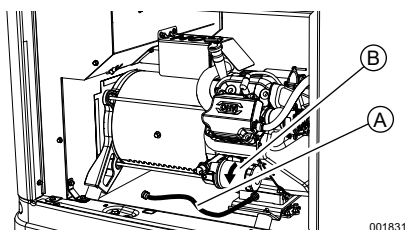
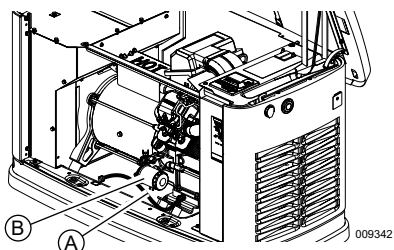
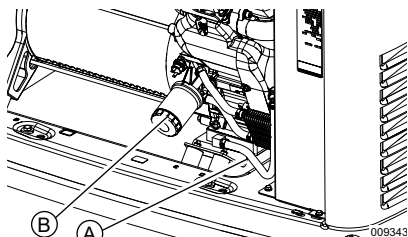

Figure 4-1. Oil Filter and Drain Location (10 kW)
Figure 4-2. Oil Filter and Drain Location (14–18 kW)
Figure 4-3. Oil Filter and Drain Location (20–26 kW)
2. See Figure 4-1, Figure 4-2, or Figure 4-3. Remove front panel when unit has cooled. Pull oil drain hose (A) free of retaining clip. Remove cap from oil drain hose and place free end into a suitable container. Drain oil.